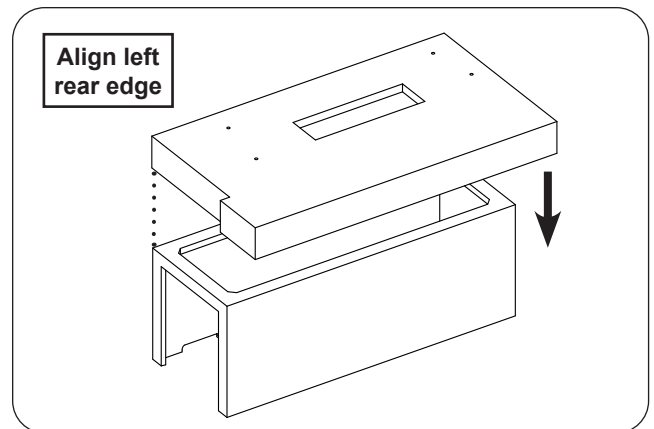

Fig. 20-2 Place shelf
2. Place the shelf piece on top of the hearth (no hardware required). The rear left corner of the shelf should rest flush with the hearth below. See Fig. 20-2.